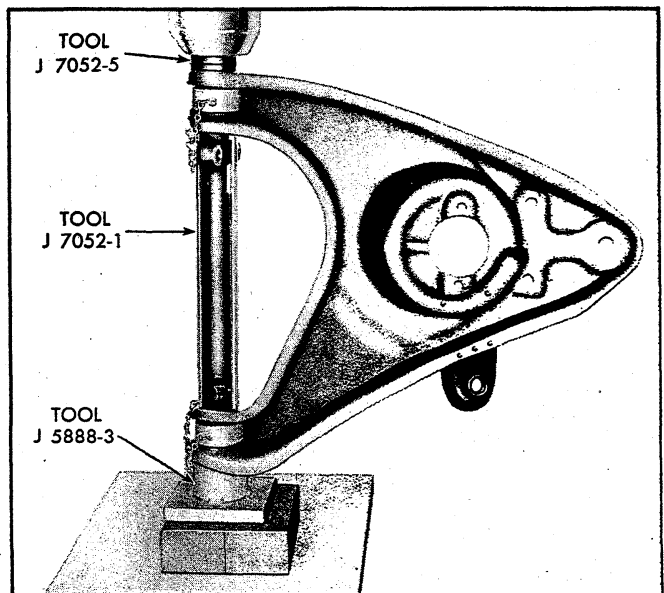

Fig. 36 - Installing Lower Control Arm Cross Shaft Bushings
3. Press bushing into control arm until flange contacts control arm (fig. 36).